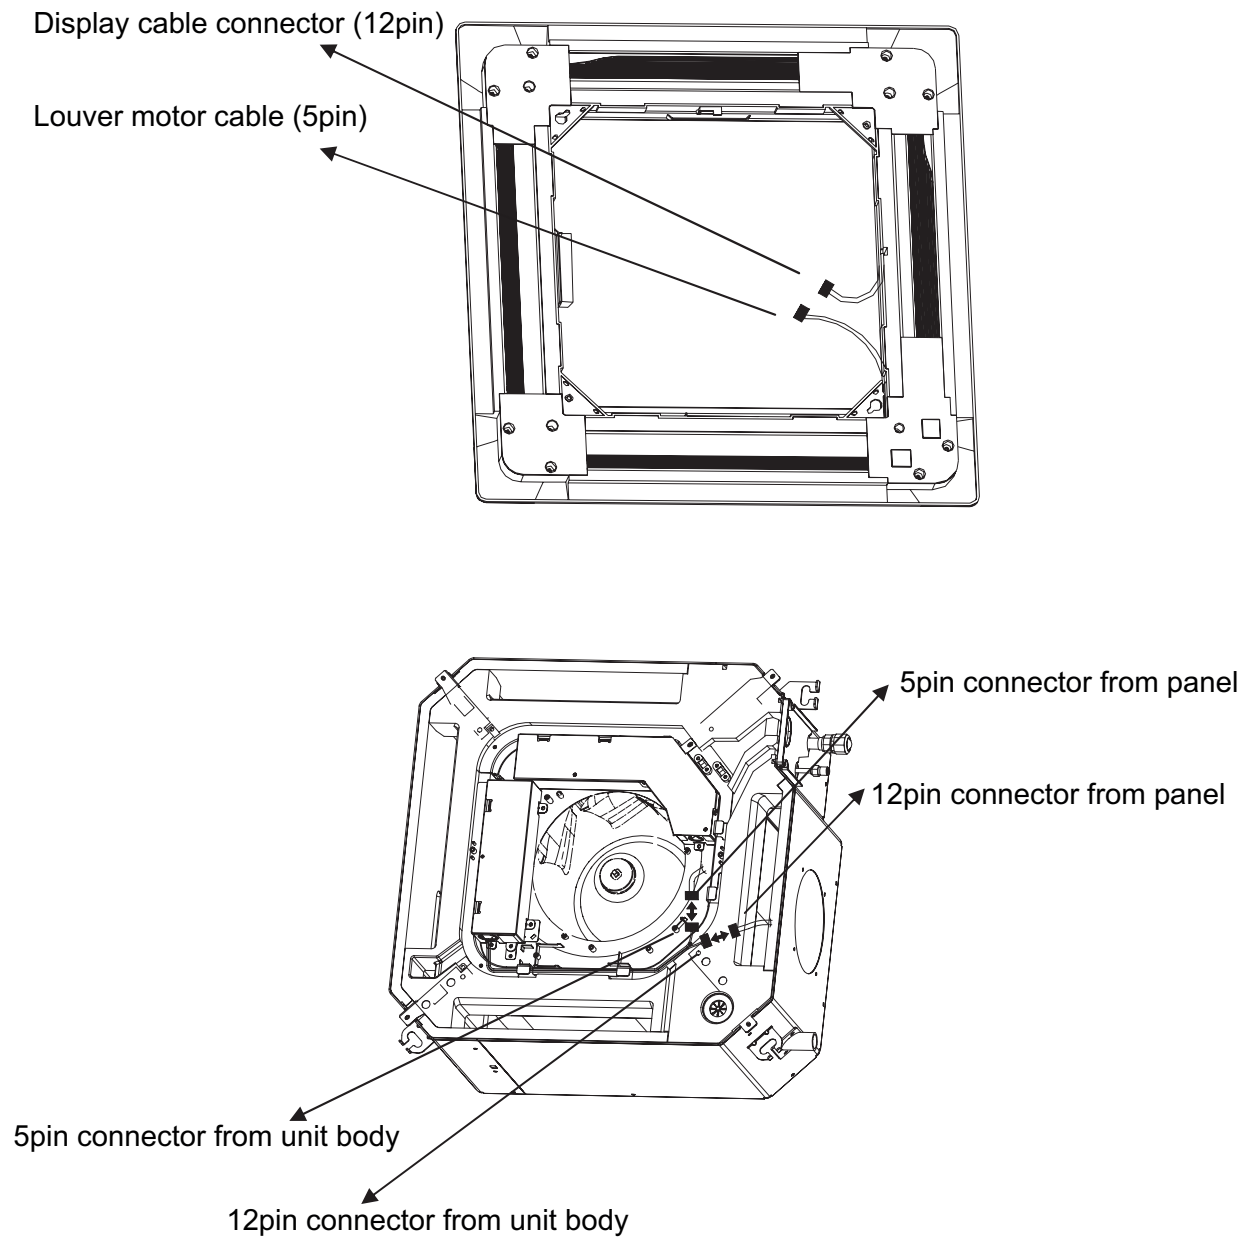

Fig.25
1. Connect the 12Pin cable connector from the ceiling panel to the relative connector which comes out of the control box. Fig.25
2. Connect the 5Pin cable connector from the ceiling panel to the relative connector comes out of the control box.(Fig.25)